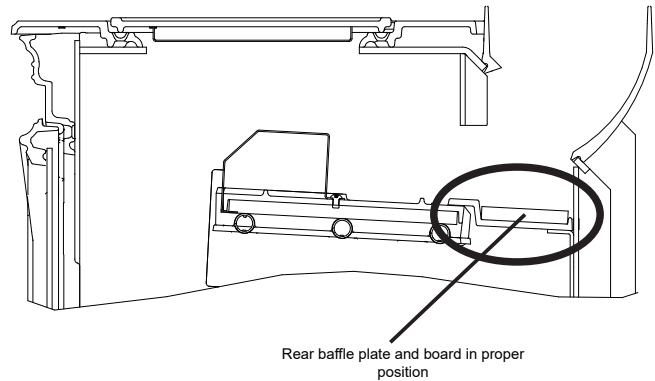

Figure 12.1
1. Confirm the baffle is correctly positioned (**Figure 12.1**).